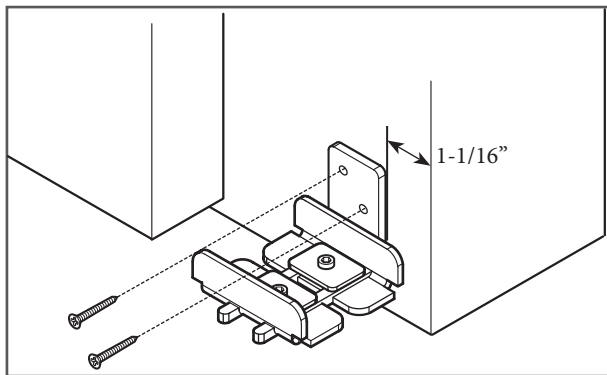

Figure 7
12. Slide the door to the open position ensuring access to the wall. Mark a vertical line 1-1/16" from the edge of the door opening (Figure 7).